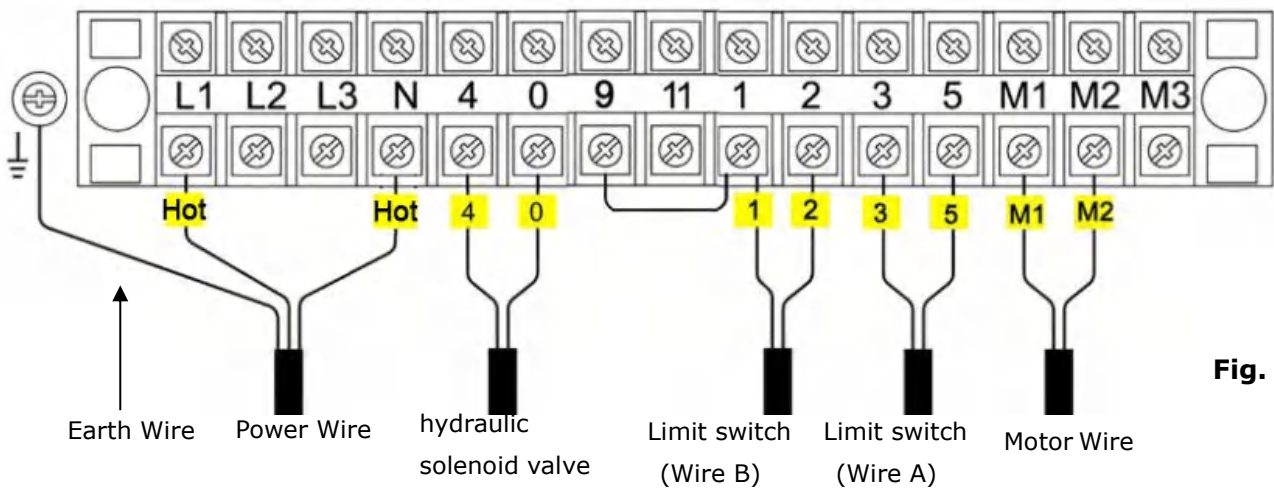

Fig. 15
1.1 Connect the power wire and limit switch wire according to the wiring diagram (See Fig. 15).